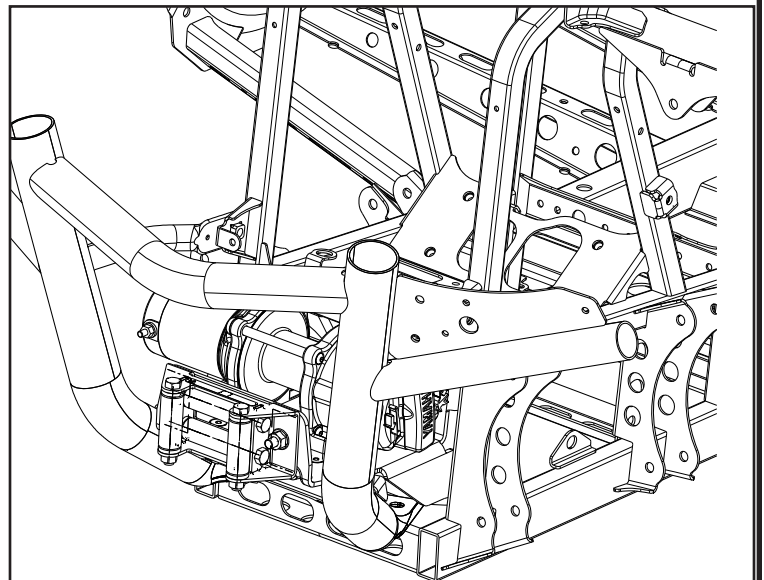

Figure 3
6. Insert winch through the side of the bumper frame work and attach to the mounting plate, using the hardware found in your winch kit. See Figure 3.